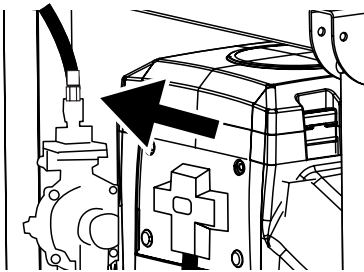

Figure 12 - Connect LPG Hose
5. Connect propane hose to generator. Ensure the propane hose is securely connected to the regulator/compression valve (see Figure 12 below).